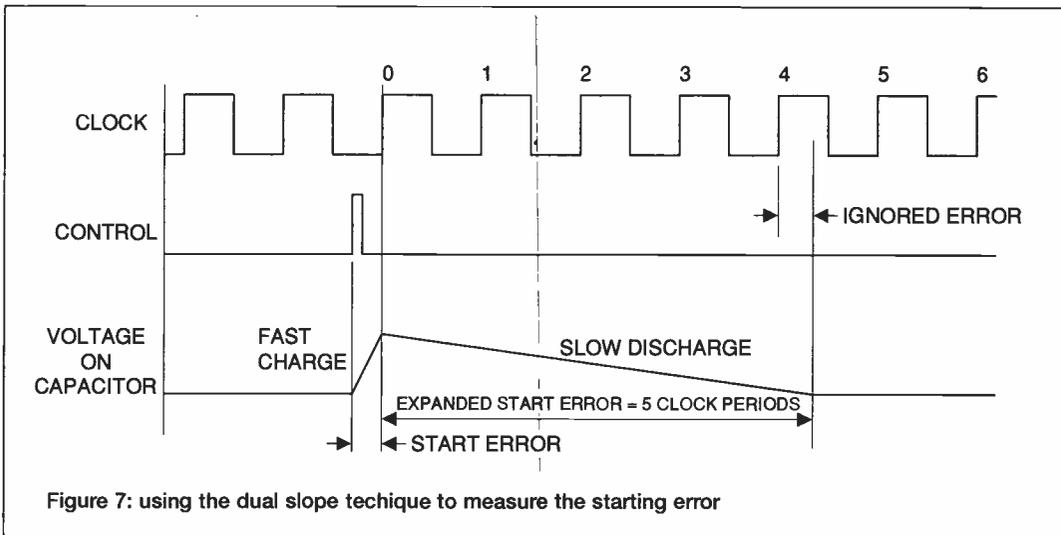

Figure 7: using the dual slope technique to measure the starting error
Figure 7 shows a circuit suitable for measuring the length of a photoflash, or some other short-lived phenomenon involving light. Photodiodes have a rapid response time, often only 250ns. Some have even shorter times, such as the BPX65 with a response time of 0.5ns. VR1 is set so that the voltage at the (0) terminal of IC1 is higher than that at the (+) terminal and the output of IC1 is 0V. IC1 is wired as a comparator. It has a reasonably high slew rate, which suits it for this application, and can operate on a supply of +/-2.5 V. During the flash there is an increase in the leakage current through the photodiode. This causes an increase in the voltage across R1. The voltage at the (+) terminal of IC1 rises above that at the (0) terminal. The output of the circuit rises close to 5 V, the equivalent of a logical high input. In summary, we get a positive pulse lasting as long as the flash.